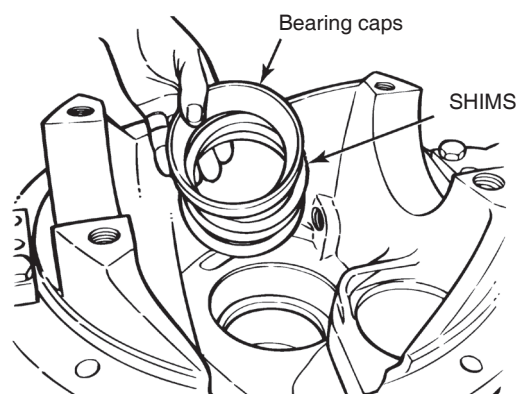

Figure 5.6
- B. Install the correct amount of shims into the bore for the inner bearing cap of the drive pinion. Figure 5.6.
- C. Place the cap into the bore. Figure 5.6.